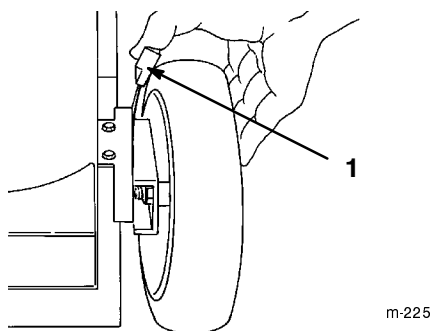

Figure 17
3. Set all four wheels in to the 2-1/2 in. (64 mm) cutting height setting (Fig. 17).
1. Pull the wheel height adjustment lever toward the wheel (Fig. 17) and move it to the desired setting.